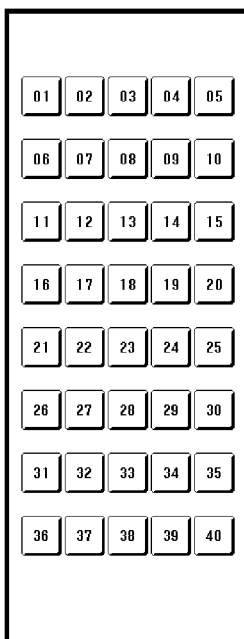
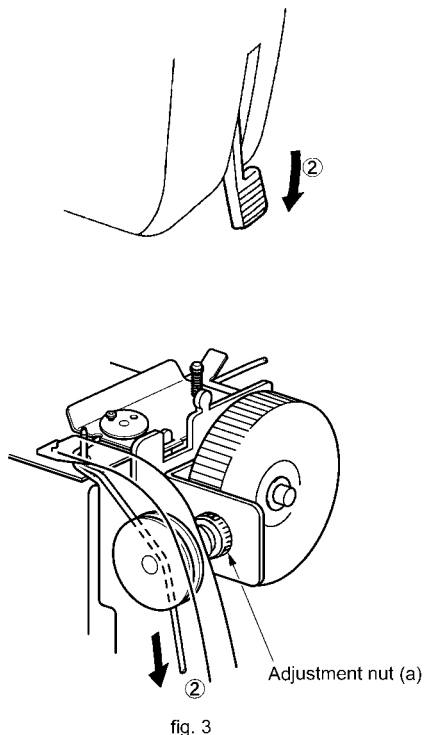

fig. 1
fig. 3
While displaying the test mode screen (Fig. 1), the tension is to be 52 to 62 cN (53 to 63 gf) when a schappe (#60) thread is gently pulled with a tension gauge.
1. Enter the test mode. (Fig. 1)
5. Enter the test mode again. (Fig. 1)
6. With the screen as shown in Fig. 1, place the thread as shown in Fig. 3 and, after lowering the presser foot, check that the tension (2) is within the following standard.